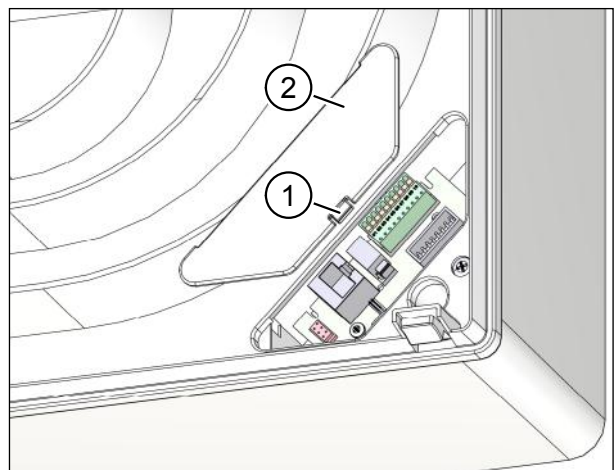

Fig. 3: Removing the network connection cover
- ▶ Press the latch (item 1 in Fig. 3) of the network connection cover (item 2 in Fig. 3) gently towards the middle of the unit, and lift up the network connection cover.
- ▶ Re-insert the network connection cover (see item 2 in Fig. 3 on page 9).